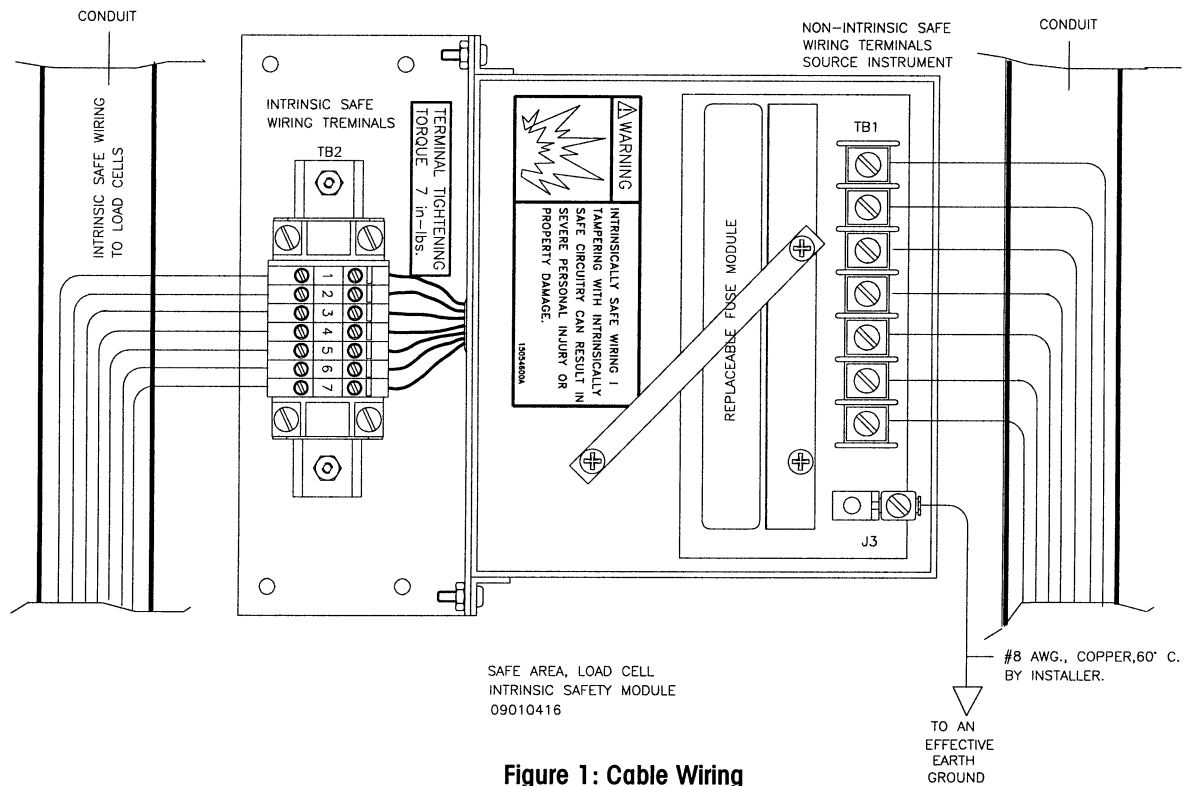

Figure 1: Cable Wiring
- Acceptable methods of separation of intrinsically safe and non-intrinsically safe circuits by separate wire ways are shown in Figure 1.
The safety of the intrinsically safe installation is assured by proper grounding. The ground connection to the Safe Area Load Cell Intrinsic Safety Module is connected to the ground lug 'J3' (refer to Figure 1) on the non-intrinsic safe wiring side of the barrier. The grounding path resistance from the barrier ground 'J3' to the designated ground electrode must be less than one ohm. Use a ground fault indicating instrument to confirm.
Check the connections and wiring as specified on drawing 150554R and the Figure 1 diagram at the beginning of this manual.